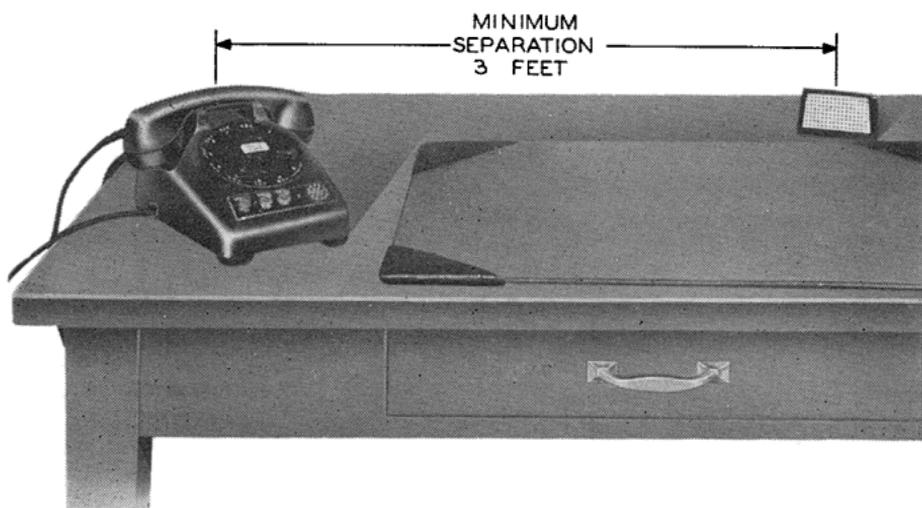

Fig. 8—General Location for Distant Talking Set
4.08 Have the subscriber make a talking test to find the best location for the loudspeaker. In most cases the subscriber may be most comfortable with the speaker on one side of his desk and the telephone on the other, as shown in Fig. 8.